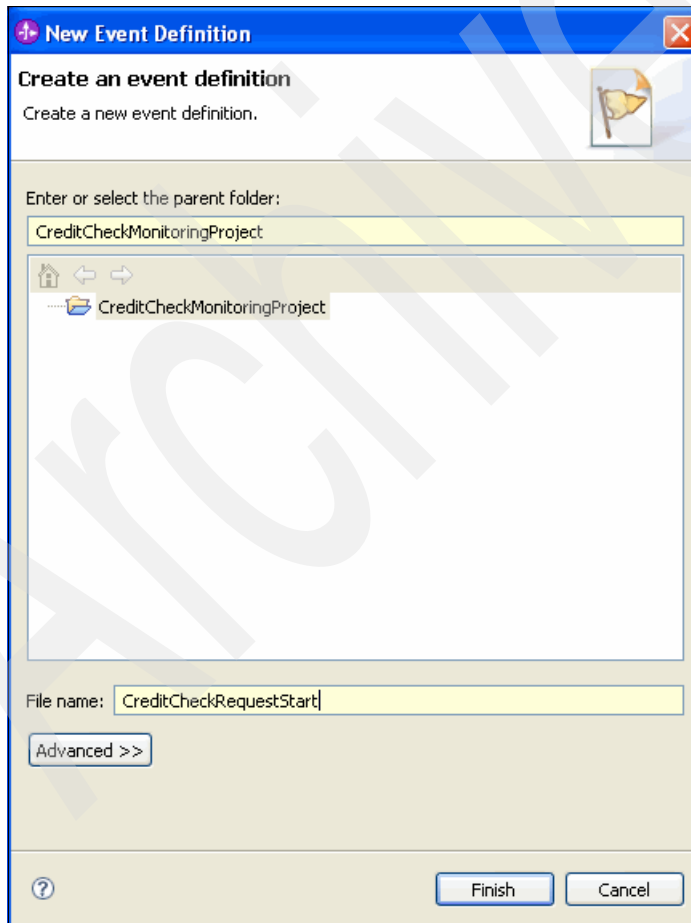

Figure 10-26 New Event Definition window
2. In the New Event Definition window (Figure 10-26), for File name, type CreditCheckRequestStart. Click **Finish**.